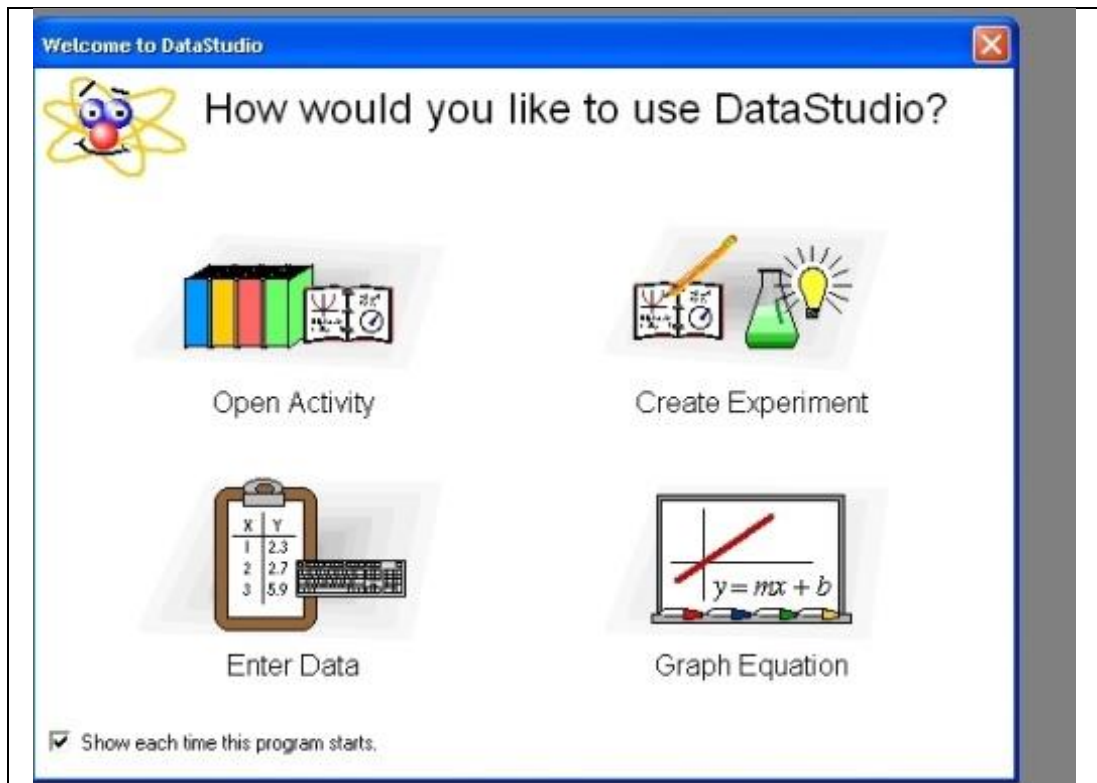
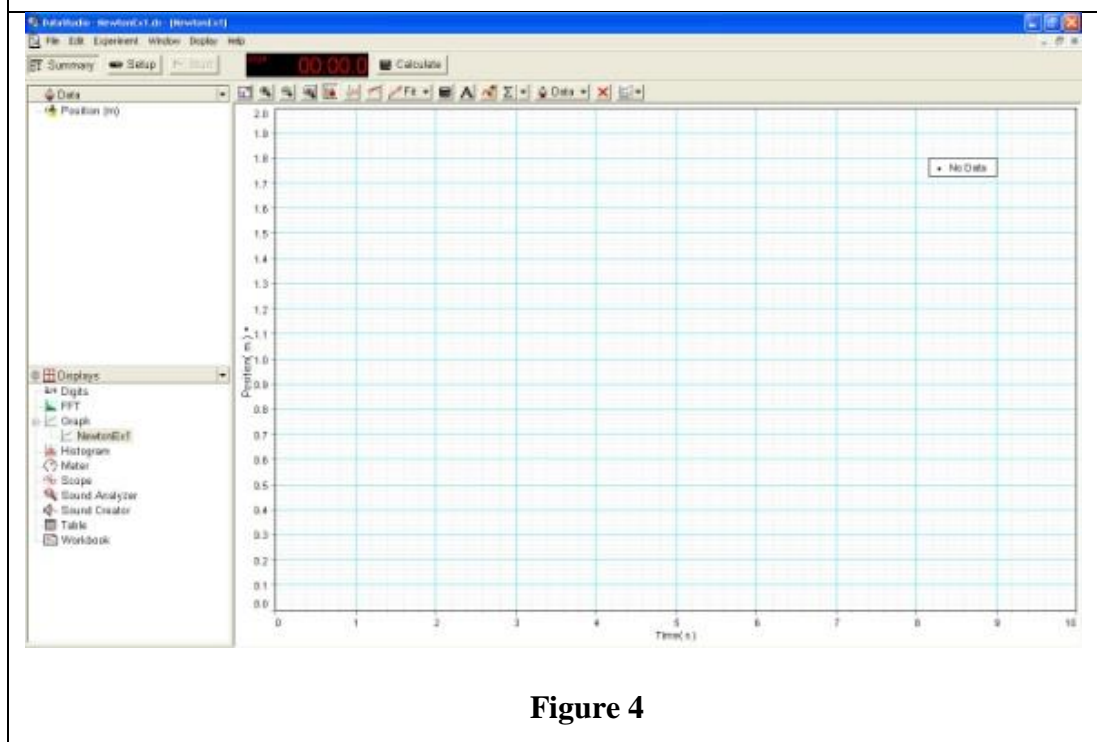

Figure 3
Figure 4
4. From the **Start** button, go to **All Program** → **DataStudio** → **English**. This will open **DataStudio**; click on **Open Activity** (see Figure 3). Navigate to the folder desktop and to the file **NewtonEx1.ds**, and open it. This will open the position-time graph as shown in Figure 4.